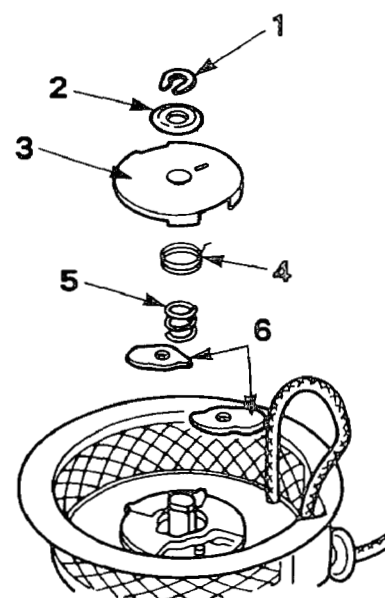
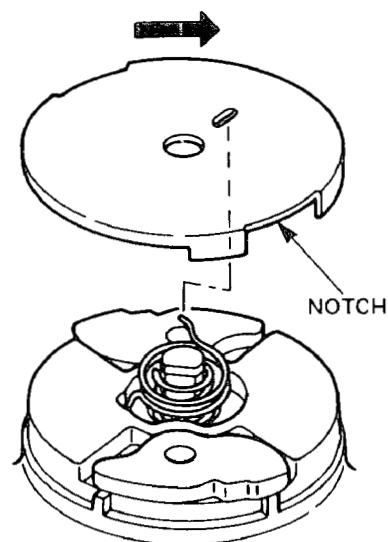

FIG. 80
FIG. 85
(3) When removing, take out the parts in the order of the numbering in Fig. 80.
(4) When reassembling the parts, follow up in the reverse order to Fig. 80. When putting the friction plate in the hole for it, set the return spring a little upward as shown in Fig. 85 so that the friction plate can easily be put in the hole for it.